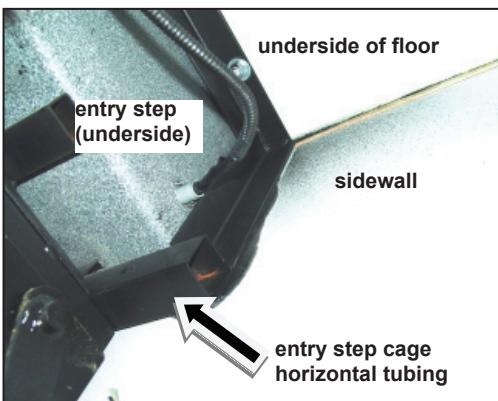

Figure 1 - Step cage attachment area
5. Refer to Figures 1 and 2 to install new support brackets (included with the repair kit) to the horizontal tubing of the step cage, and into the back side of the sidewall. (Figure 1 shows the area before repairs are made.)